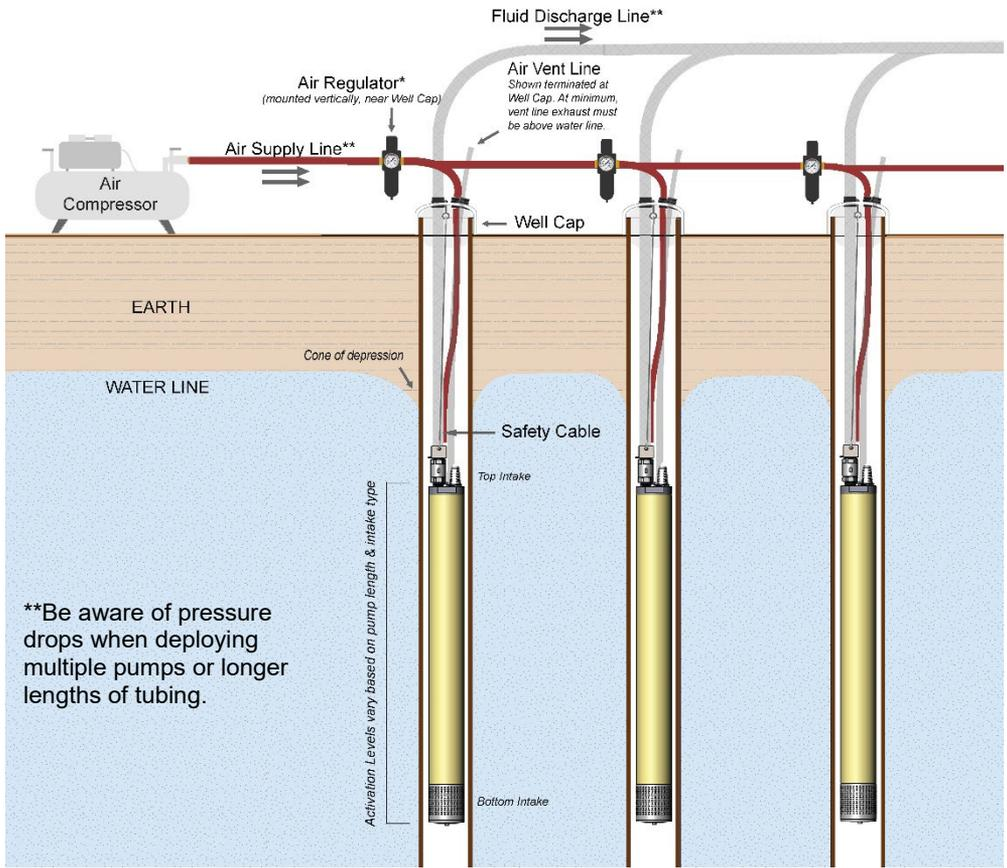

**Figure 2-1:** Pump Head
Attach the Air (A), Vent (V), and Discharge (D) hoses/tubing to their appropriate labeled fittings (see Figure 2-1). Ensure all hoses are installed securely and completely. Top filling AR4 pump models have a screened inlet in the Fill (F) port; bottom fill only pumps will have this port plugged.